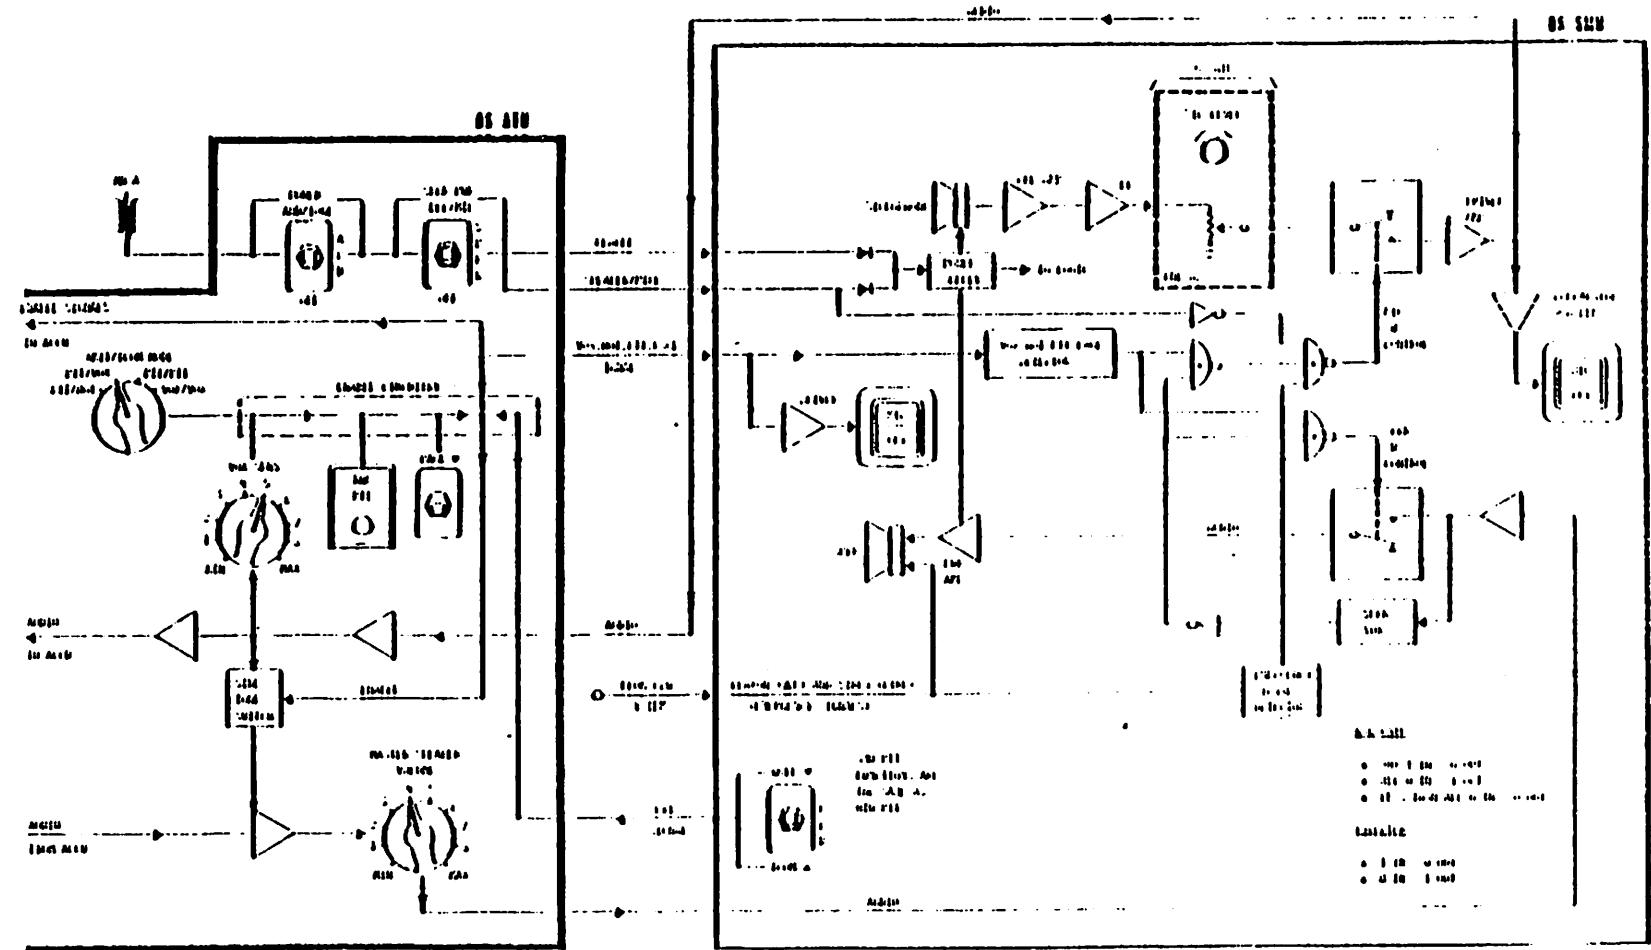

Figure 3-18.- SMU Circuitry.
- D. Figure 3-18 - SMU Circuitry